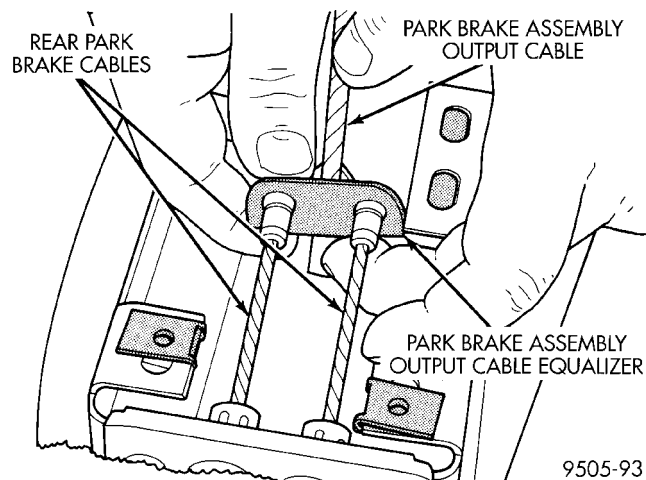
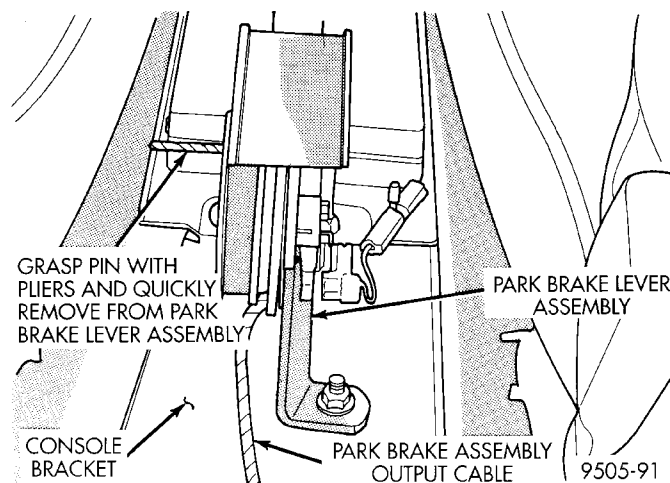

Fig. 138 Park Brake Cables Attachment To Equalizer
Fig. 157 Removing Lockout Pin From Park Brake Lever
- (7) Remove rear park brake cables from the park brake cable equalizer (Fig. 138).
(14) Install rear park brake cables into equalizer (Fig. 138) on park brake lever cable.
(15) Reposition rear carpeting.
(16) Install both rear door sill plate scuff moldings, by snapping them onto rear door sills.
(17) Install lower rear seat cushion. Be sure lower seat cushion is fully installed in retainers on floor pan of vehicle.
(18) Firmly grasp park brake lever locking pin (3/16 in. drill bit) (Fig. 157) and quickly remove it from the park brake lever mechanism. This will allow the park brake lever mechanism to correctly adjust the park brake cables.
(19) Cycle park brake lever ounce to position park brake cables. Then return the park brake lever its released position. Check the rear wheels of the vehicle, they should rotate freely without dragging.
(20) Apply park brake to full engagement.
(21) Install center console assembly.
(22) Install the center console assembly attaching screws.